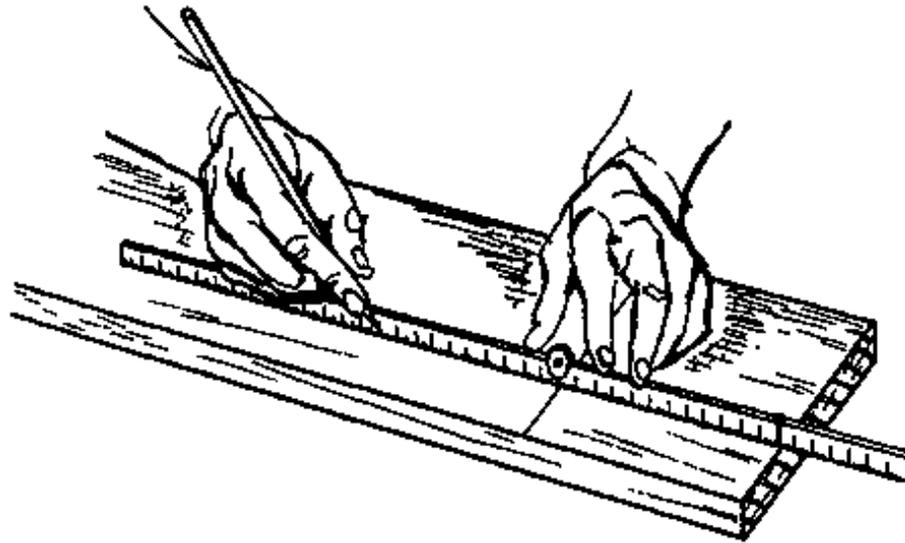

Fig. 3
**For very accurate marking and measuring, lay the rule on its edge so that the marks on the rule touch the work (Fig. 3).**